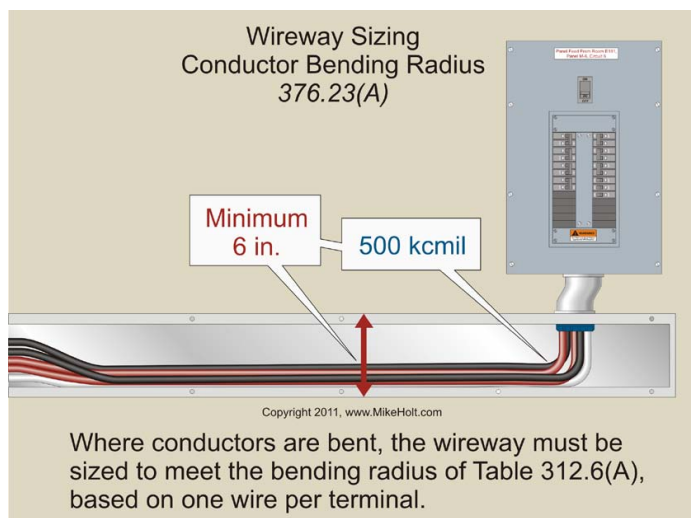

Figure 5-28
**Sizing for Conductor Bending Radius.** Where conductors are bent within a metal wireway, the wireway must be sized to meet the bending radius requirements contained in Table 312.6(A), based on one wire per terminal [367.23(A)]. **Figure 5-28**